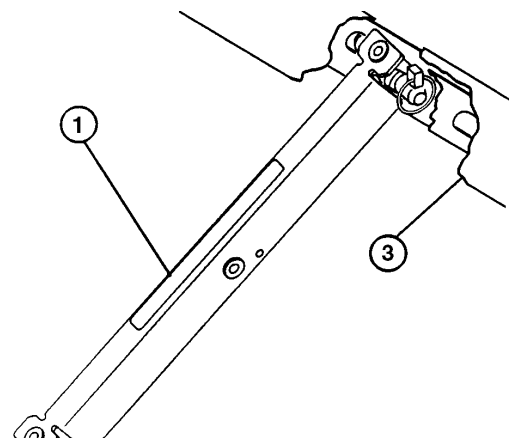

Figure 11
- C. Push the bed support onto the cylinder rod, making sure the support end tabs rest on end of the cylinder barrel and on the cylinder rod end (Fig. 11).